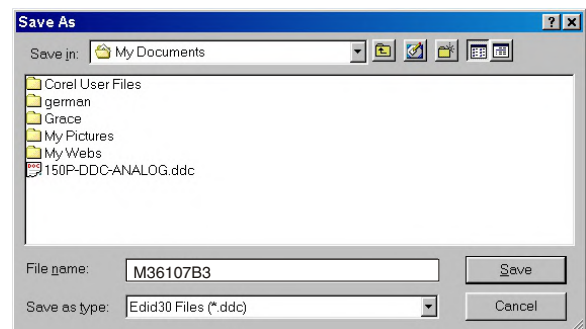

Fig. 19
1. Click (Save) icon (or click "file"-> "save as") from the tool bar and give a file name as shown in Fig. 19. The file type is EDID301 file (*.ddc) which can be open in WordPad. By using WordPad, the texts of DDC data & table (128 bytes, hex code) can be modified. If DDC TEXTS & HEX Table are completely correct, it can be saved as .ddc file to re-load it into EEPROM for DDC Data application.